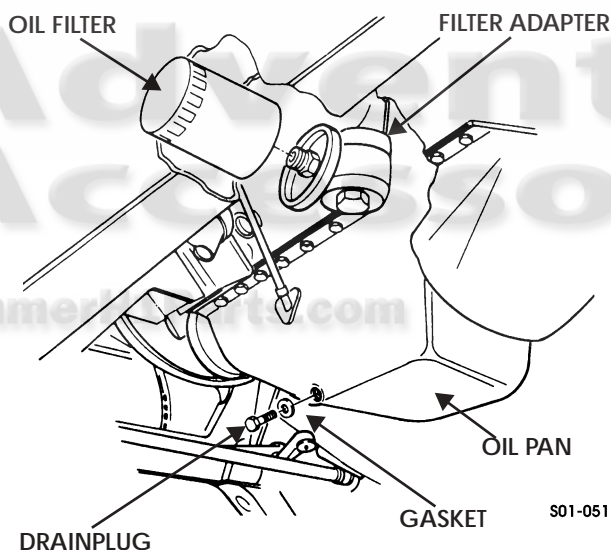

Figure 1-39: Oil Filter
1. Remove drainplug and gasket from oil pan. Drain oil completely (Figure 1-39).
Remove oil filter from filter adapter. Discard oil filter (Figure 1-39).
1. Apply a light coat of oil to filter gasket (Figure 1-39).